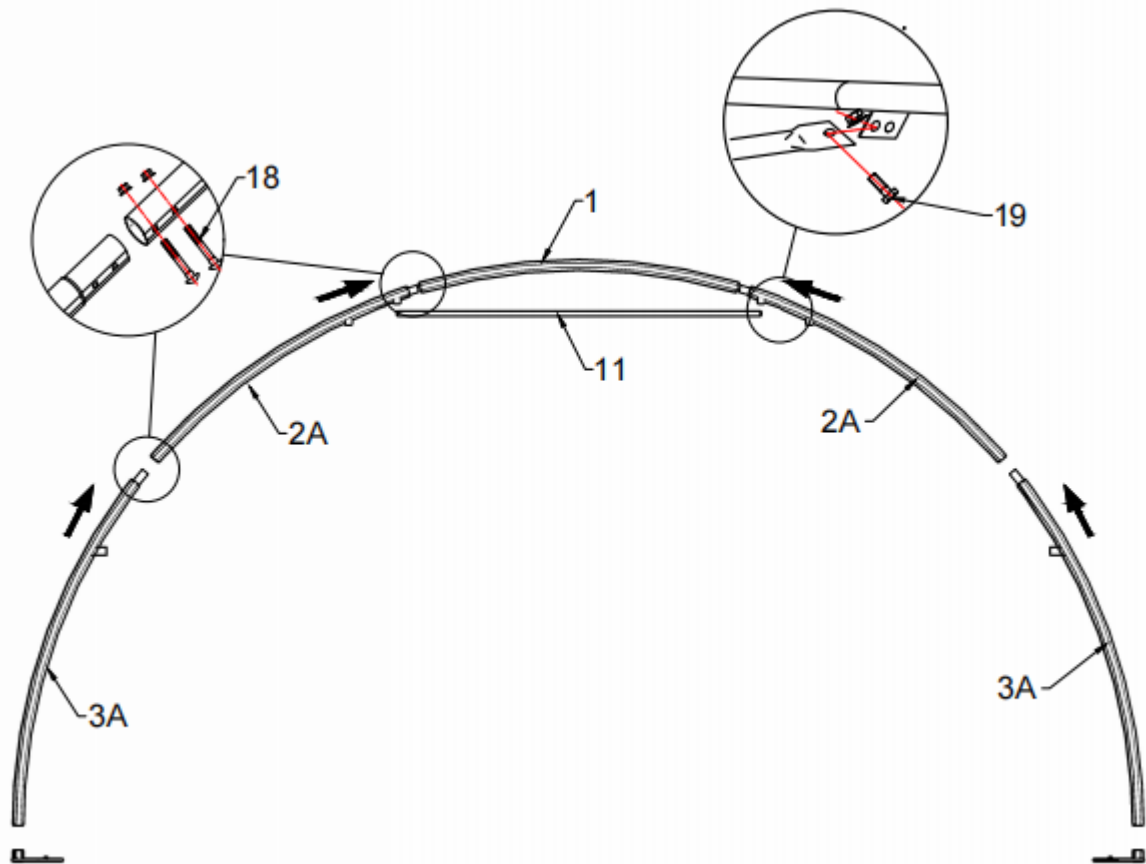

Figure 2
3.1 As Figure 2 and 3 shown to find one Roof Bent Tube, Upper Bent Tubes, Lower Bent Tubes, and assemble every group arch with Bolt. **DO NOT** install the screw on the top of the truss where the fabric will rest.